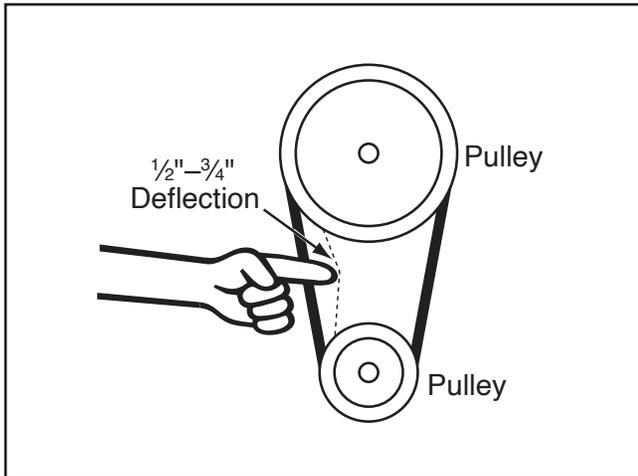

Figure 62. Checking V-belt tension.
3. Check V-belt tension: each V-belt is correctly tensioned when there is approximately $\frac{1}{2}$ "– $\frac{3}{4}$ " deflection when it is pushed with moderate pressure, as shown in **Figure 62**.